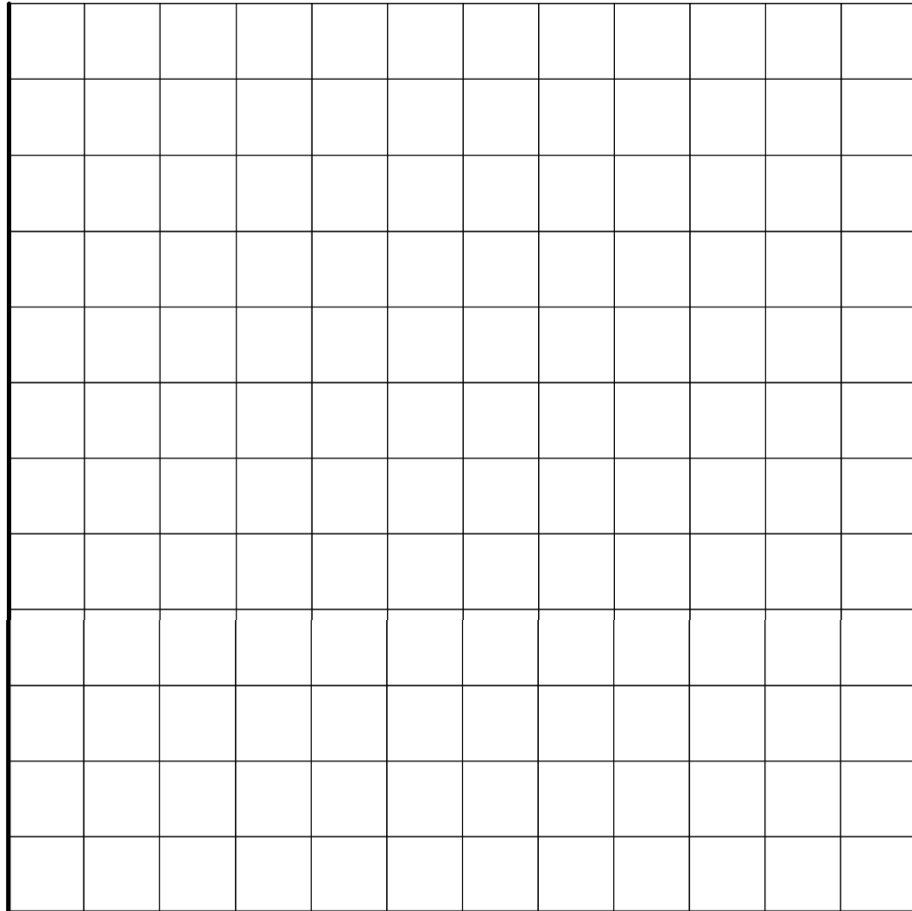

Fig. 1.6.1.2: Characteristics $I = f(U)$
- Plot the values measured for the second resistor in the chart (Fig. 1.6.1.2) and draw the characteristic, $I = f(U)$.